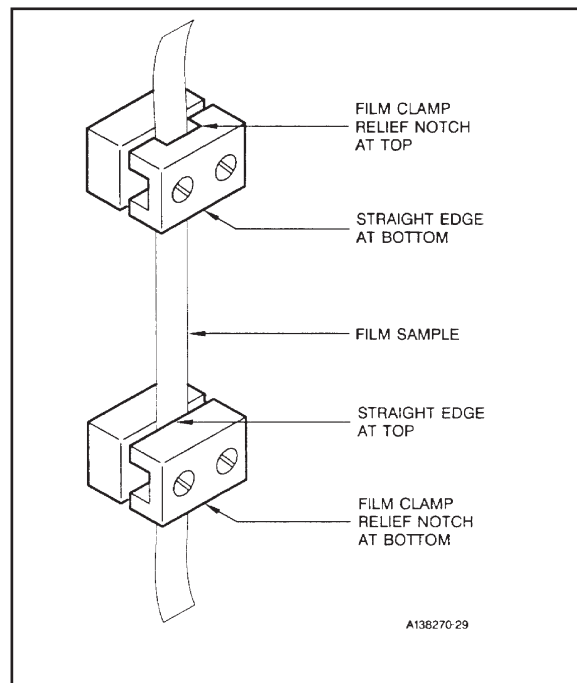

Figure 4.5
2. Separate the jaws of one clamp. Position the clamp so that the clamp relief notch opening is at the top of the sample, then slide one end of the sample into the clamp and tighten the screws. (See Figure 4.5.)
4. Lift up the free end of the film and slide the other clamp onto the end, positioning the clamp relief notch opening at the bottom of the sample (see Figure 4.5).